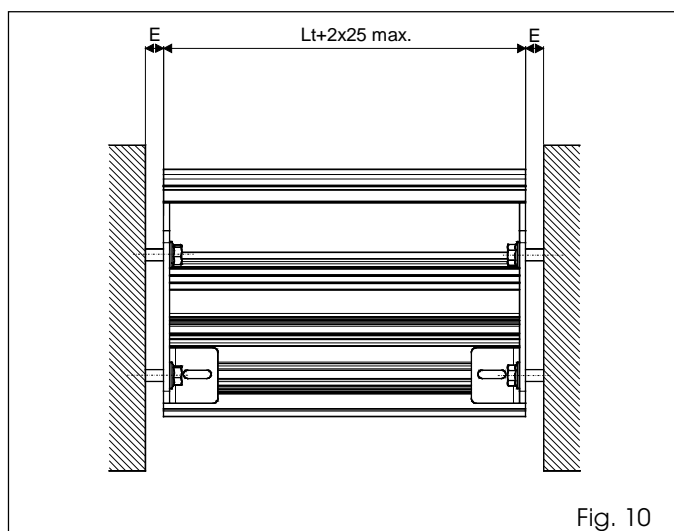

Fig. 10
•Secure the side plates using adequate expansion plugs (not supplied) and, if necessary, use shims for the spaces E (fig. 10). Intermediate fastenings may be necessary (on wall or on ceiling as the case may be) according to the length of the head profile: